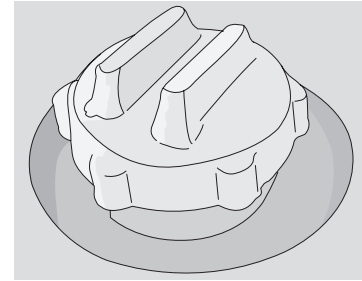

Figure 4-41
- Slowly rotate the radiator's cap until it is open. (Figure 4-41)